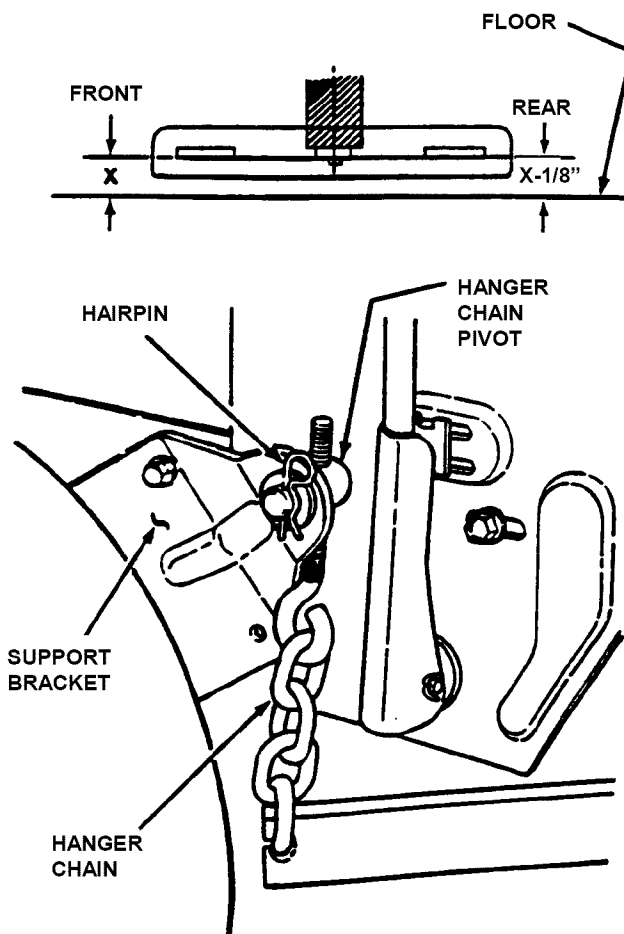

FIGURE 4.7
9. Readjust rear hanger chain pivots to align with holes in support brackets. See Figure 4.7.
2. Turn each hanger pivot the same number of rotations on the eye-bolt to raise or lower the rear of the deck. See Figure 4.7.